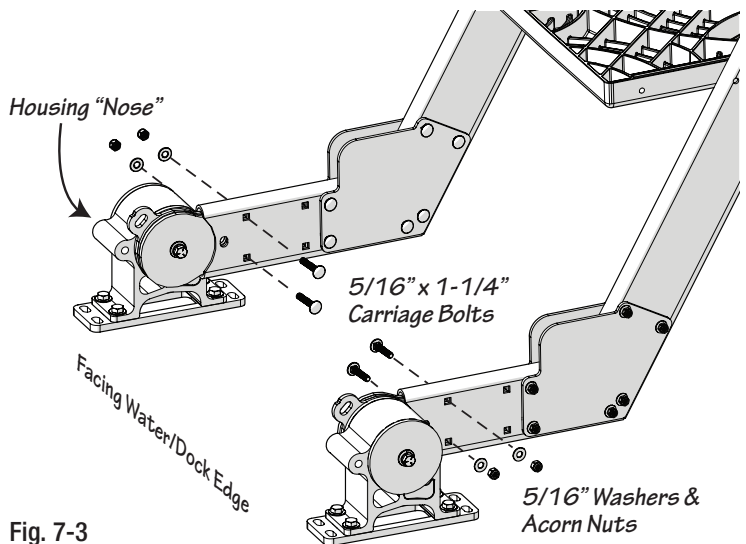

Fig. 7-3
- Insert 2 (5/16 x 1-1/4") carriage bolts from the inside of the ladder frame through the upper frame & base/housing plate as shown in Fig.7-3.